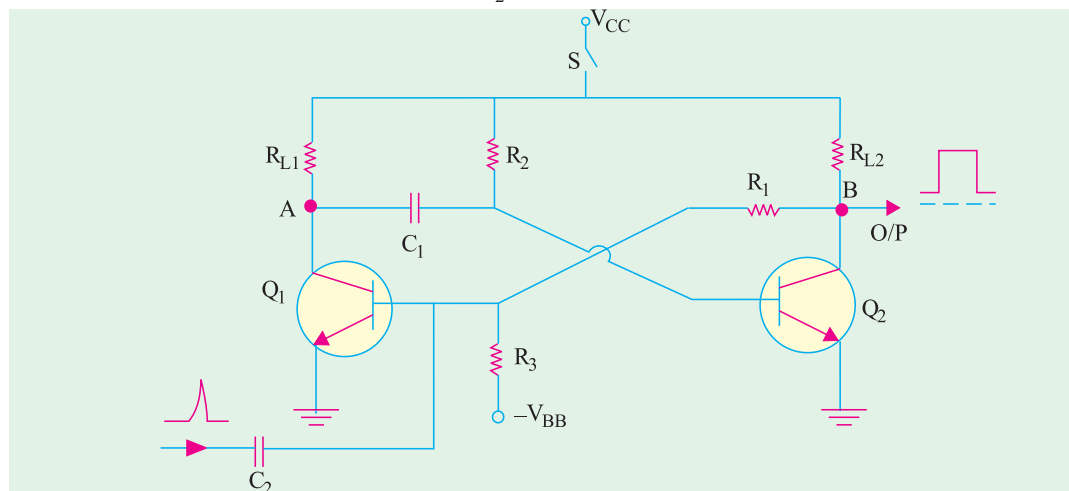

Fig. 65.30
A typical MMV circuit is shown in Fig. 65.30. Here,  $Q_1$  is coupled to  $Q_2$  base as in an AMV but the other coupling is different. In this multivibrator, a single narrow input trigger pulse produces a single rectangular pulse whose amplitude, pulse width and wave shape depend upon the values of circuit components rather than upon the trigger pulse.
As shown in Fig. 65.30, the output is taken from the collector of  $Q_2$  though it can also be taken from point  $A$  of  $Q_1$ . The width of this pulse is determined by the time constant of  $C_1 R_2$ . Since this MV produces one output pulse for every input trigger pulse it receives, it is called **mono or one-shot multivibrator**.
**Example 65.19.** A 20 kHz, 75% duty cycle square ( $t_p$ ) wave is used to trigger continuously, a monostable multivibrator with a triggered pulse duration of  $5\mu s$ . What will be the duty cycle of the waveform at output ( $B$ ) of the monostable multivibrator (refer to Fig. 65.30).